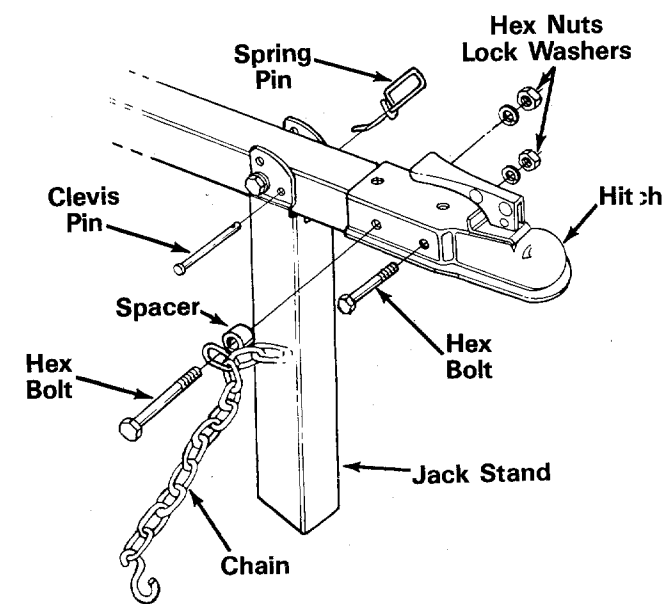

FIGURE 5
1. The tongue is shipped with the jack stand already attached to the tongue. The jack stand is in the transport position. Remove the spring pin and clevis pin. Pivot the jack stand to the operating position and replace the clevis pin and spring pin. See figure 5.
2. Place the hitch in position on the end of the tongue. Secure with hardware just removed. See figure 5.